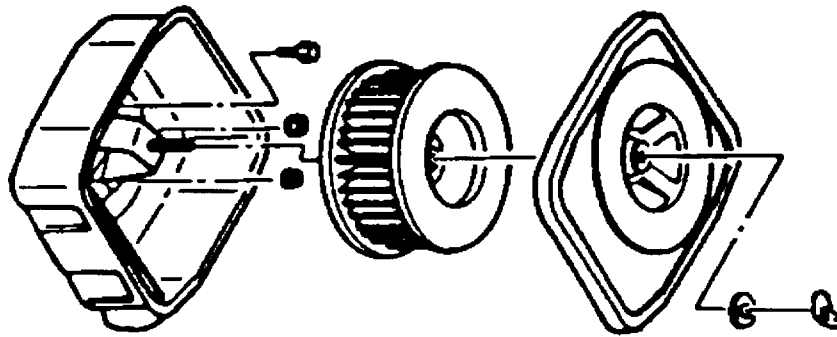

Figure 6-27 Air Cleaner
- 3) Install the cover (see Figure 6-27).